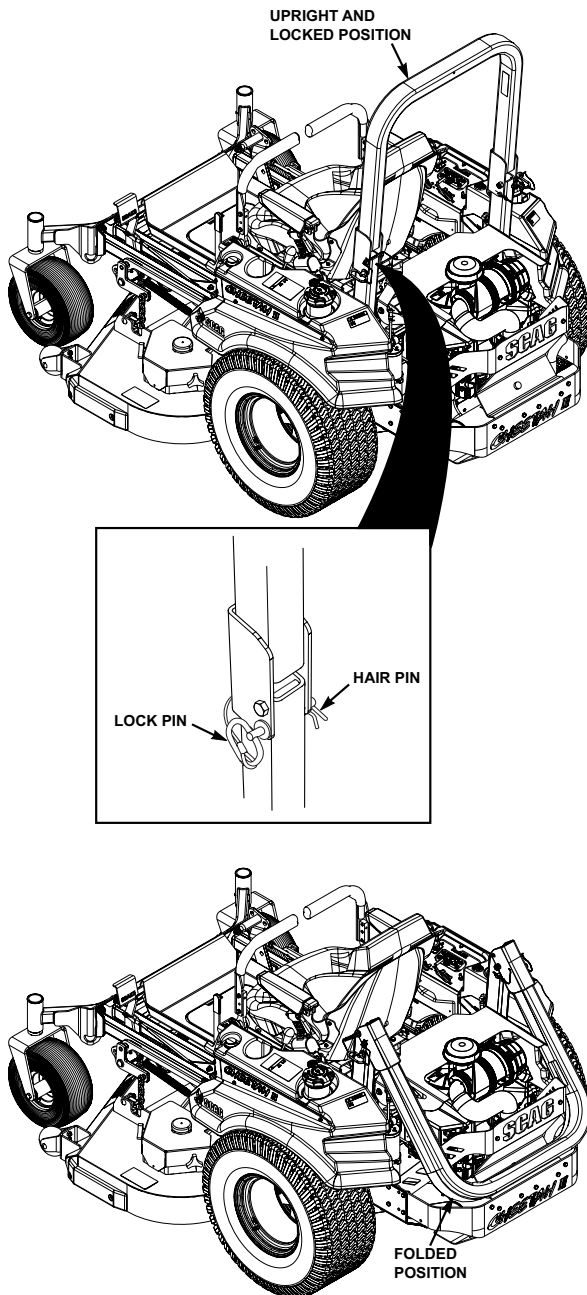

Figure 2-2. Foldable Roll-Over Protection Structure
1. To lower the roll bar, remove the hairpin cotter pins and remove the two (2) lock pins. See Figure 2-2.
2. Lower the roll bar to the folded position. See Figure 2-2.
4. Install the two (2) lock pins through the holes and secure with the two (2) hairpin cotter pins. See Figure 2-2.